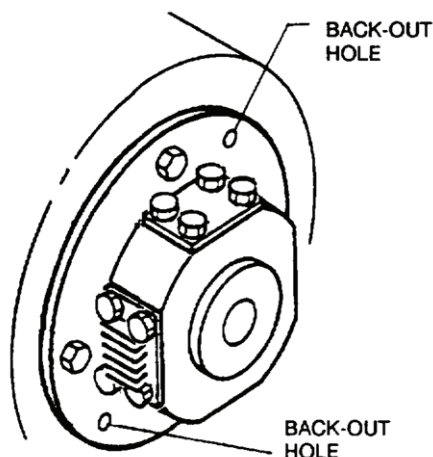

Figure 1. End Bell Removal.
5. Remove bolts (6) and lockwashers (7) from end bell (5). Discard lockwashers (7).
6. Install two bolts (6) in "backout" holes in end bell (5) flange; refer to Figure 1.
WP 0120, Figure 1, Items: 2 & 3